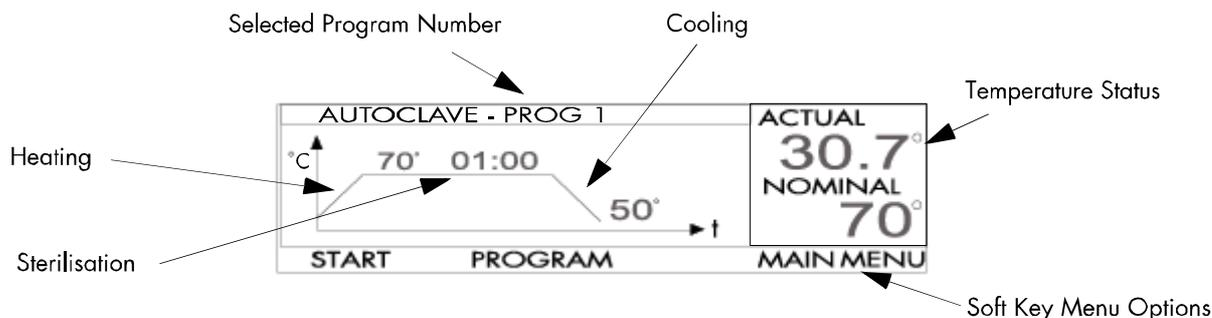

Figure 4.2: The AUTOCLAVE PROG [#] Screen
Figure 4.2 illustrates the AUTOCLAVE cycle progress as displayed on the AUTOCLAVE PROG [#]
1. Press **AUTOCLAVE** on the start display (see section 3.4.1). The AUTOCLAVE PROG [#] screen appears (see figure 4.2)